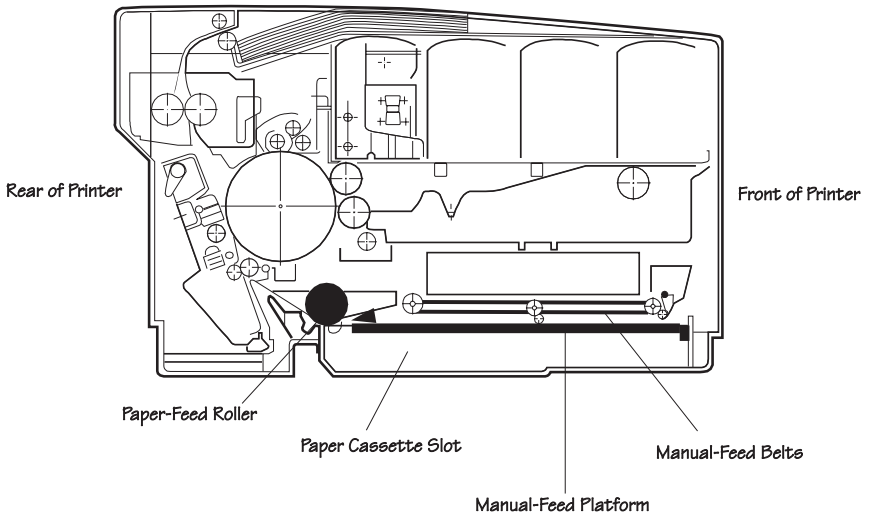

Fig. 6.21 *Locate the Manual-Feed Platform*
3. Reach into the back of the cassette slot and locate the roller: it's on the top of the slot at the rear (fig. 6.21).
5. Locate the manual-feed platform: it's a black plastic tray at the top of the cassette slot (fig. 6.21).
7. Locate the two manual-feed belts at the top of the cassette slot (fig. 6.21).